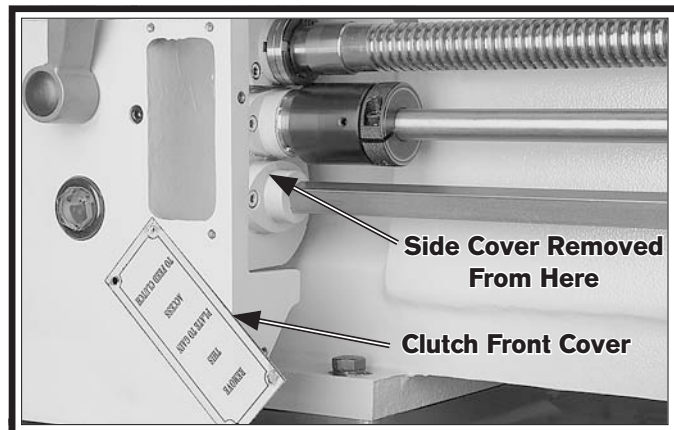

Figure 139. Location of clutch front cover (side cover removed for photo clarity).
2. Remove the clutch front and side covers (see **Figure 139**).